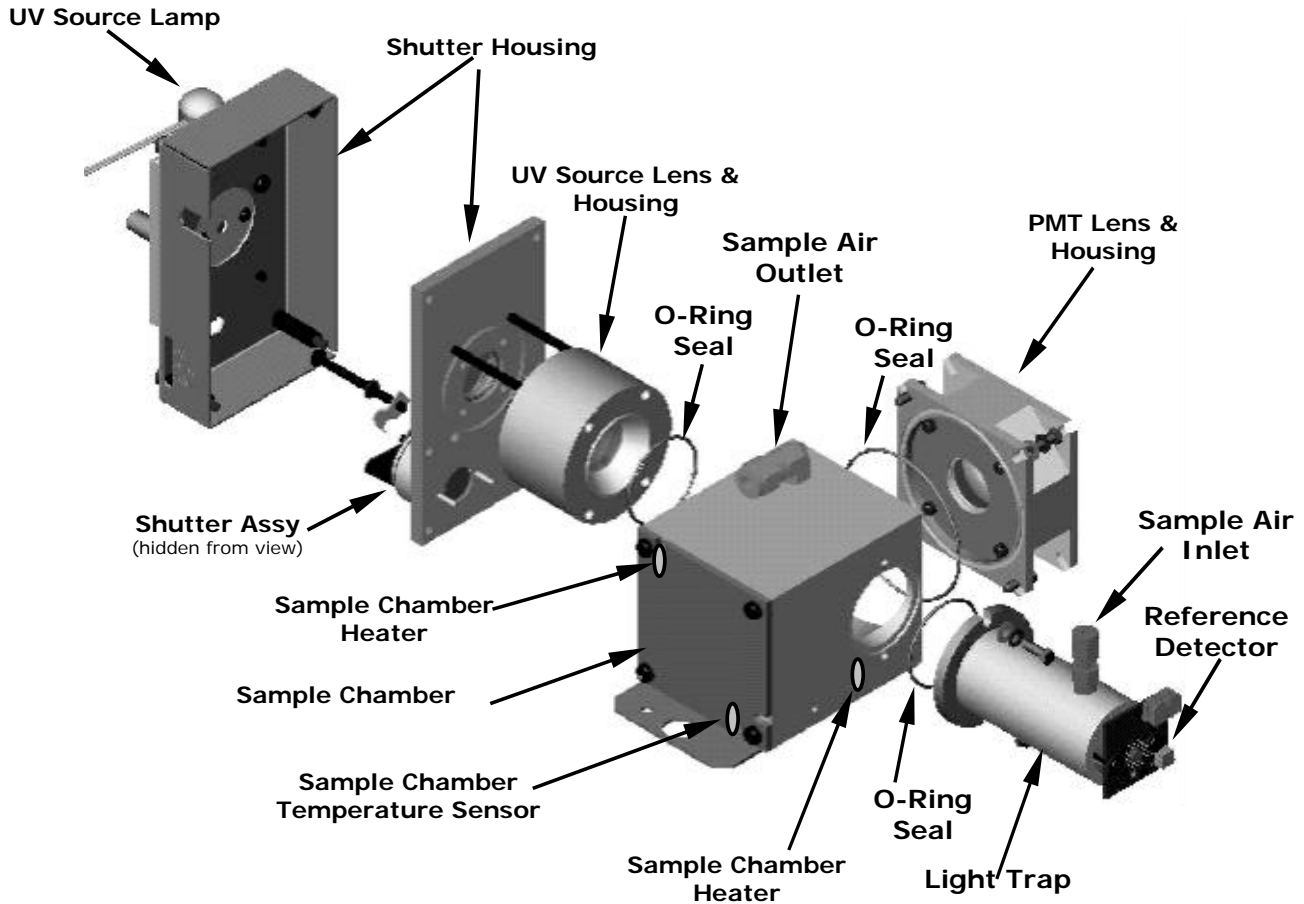

Figure 10-13: TML87 Sample Chamber
- Figure 10-13 shows an exploded view of the sample chamber assembly